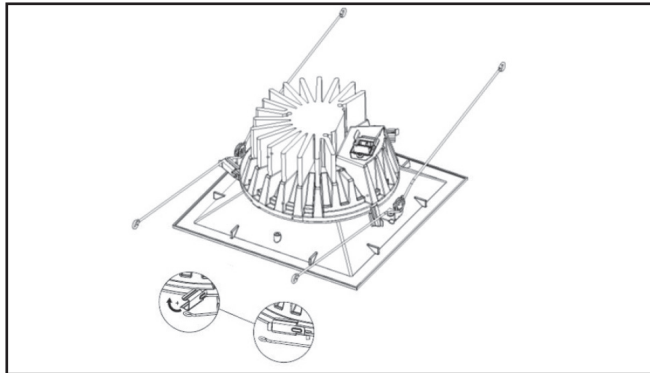

Figure 5
5. Rotate side clips (3) into place to securely attach trim assembly to LED engine (Figure 5).